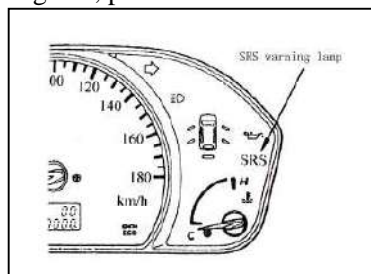

Fig.19-34
- (1) Put ignition switch on the position of ON.
- (2) Make sure that SRS alarm light is lighted in 6-8 seconds, after lasting 5 seconds it will extinguish(Fig.19-34).
- (3) If light doesn't extinguish, please clear the fault.